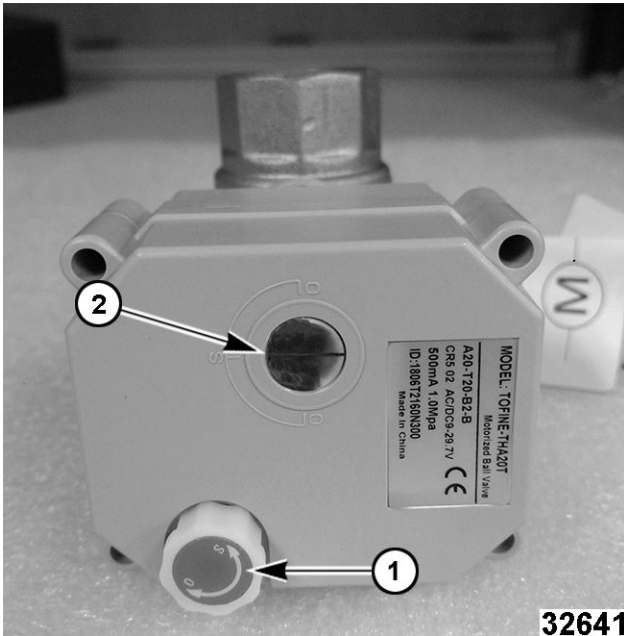

Fig. 63
- A. Pull knob (1, Fig. 63) out and turn while watching indicator window. Verify red line inside indicator window (2, Fig. 63) is horizontal (closed position) with valve body.